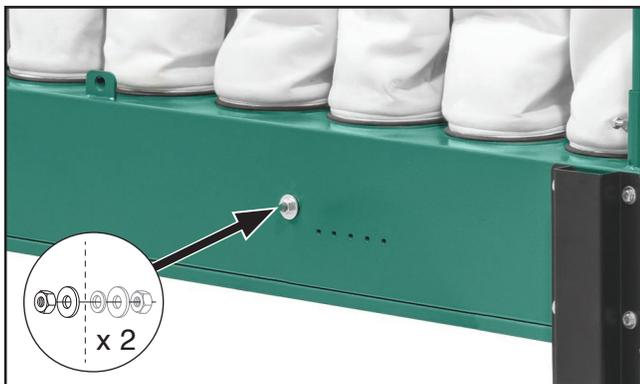

Figure 43. Location of outside chip deflector fasteners (rear machine body shown).
30. Secure chip deflector to machine body with fasteners removed in **Step 27** (see **Figure 43**). Tighten until snug, but do not overtighten, as this may damage rubber gasket.